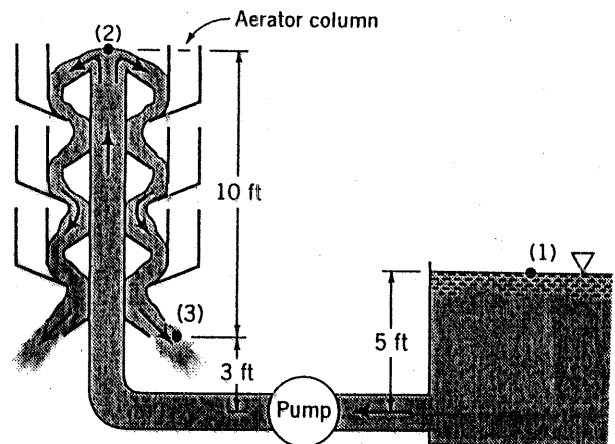

FIGURE P5.118
5.118 Water is pumped from a tank, point (1), to the top of a water plant aerator, point (2), as shown in Video V5.8 and Fig. P5.118 at a rate of $3.0 \text{ ft}^3/\text{s}$. (a) Determine the power that the pump adds to the water if the head loss from (1) to (2) where $V_2 = 0$ is 4 ft. (b) Determine the head loss from (2) to the bottom of the aerator column, point (3), if the average velocity at (3) is $V_3 = 2 \text{ ft/s}$.